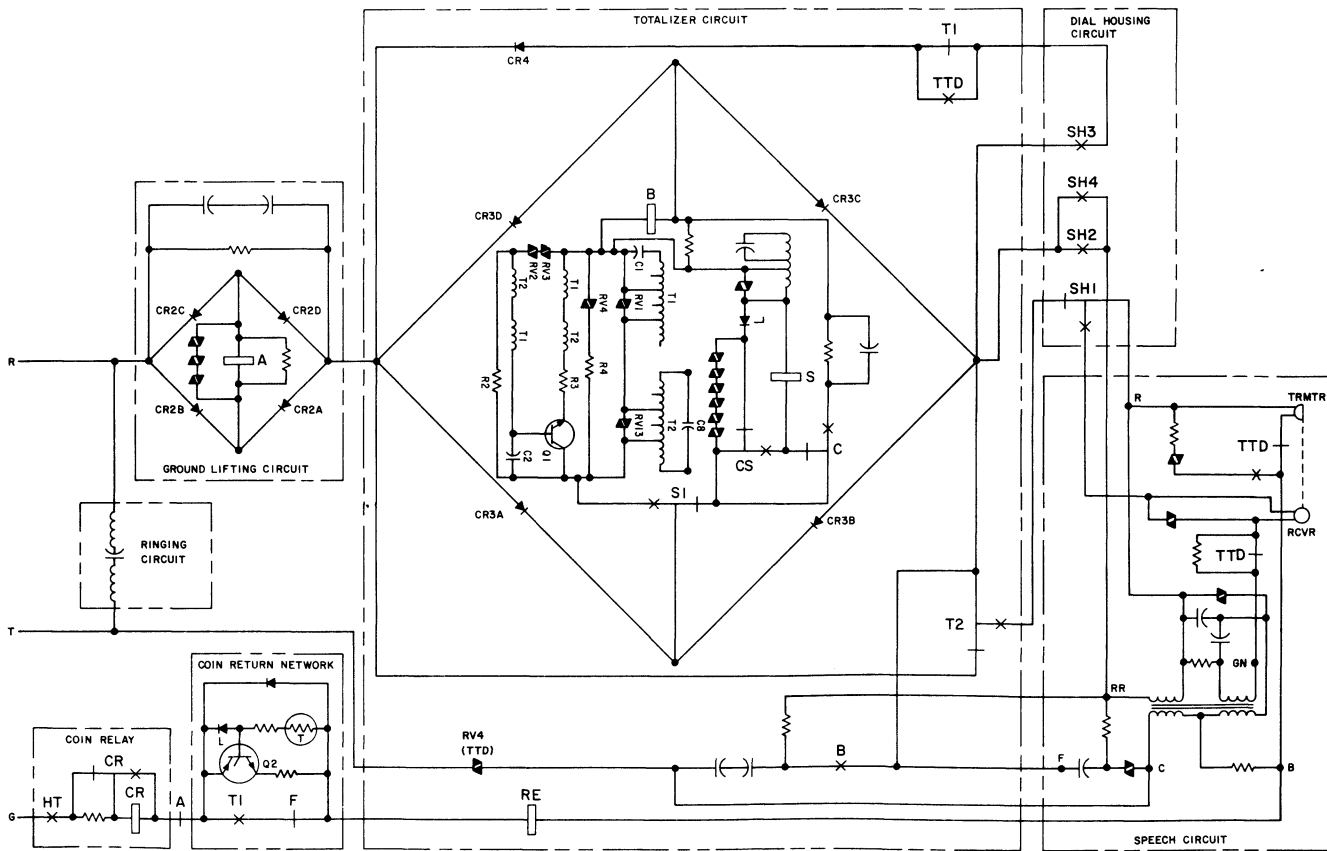

Fig. 10—1C2/2C2 Coin Telephone Set—Schematic (DTF Mode)
**Note:** This procedure and Fig. 10 refer to TOUCH-TONE dials.